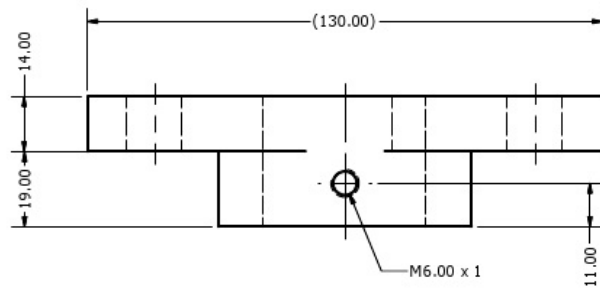

Figure 3.5.1: Dimensioned Front and Top Views
-the value of 48.00 in the front view of Figure 3.5.1 defines the distance between the centre of the large hole and the centre of the smaller hole on the left